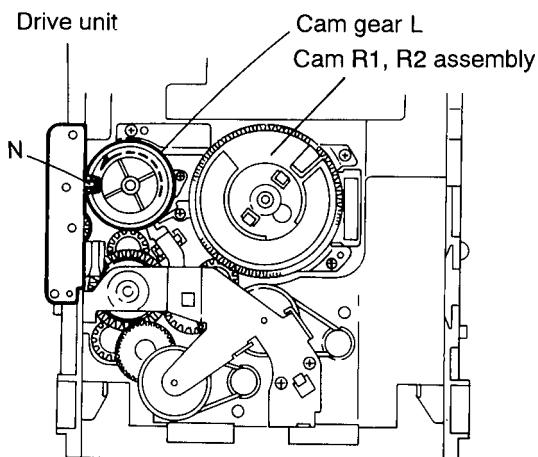

Fig. 2-22
(See Figs. 2-22 and 2-24)
- While turning the cam gear L, align the pawl (N) position of the drive unit to the notch position (Fig. 2-22) on the cam gear L.